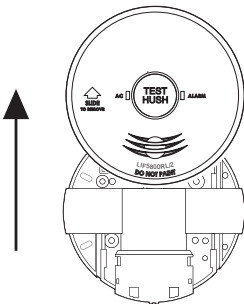

Figure 1: To remove smoke alarm
- 5.2.1 Separate Smoke Alarm from mounting base by sliding cover (in direction of arrow) with one hand on the back of the mounting base and one hand sliding Smoke Alarm(See Fig. 1).